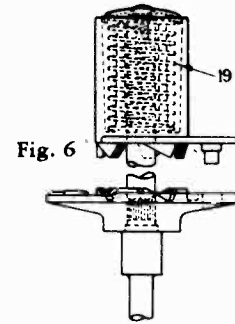

Fig. 6
The record separator knife turns with the shaft and strikes the edge of the bottom record. The separator shaft continues to revolve as the teeth on the inner circumference of the knife ride up on the shelf teeth until the knife is carried high enough to be moved in, by action of spring (19) in Fig. 6 over the top of the record. The separator shaft